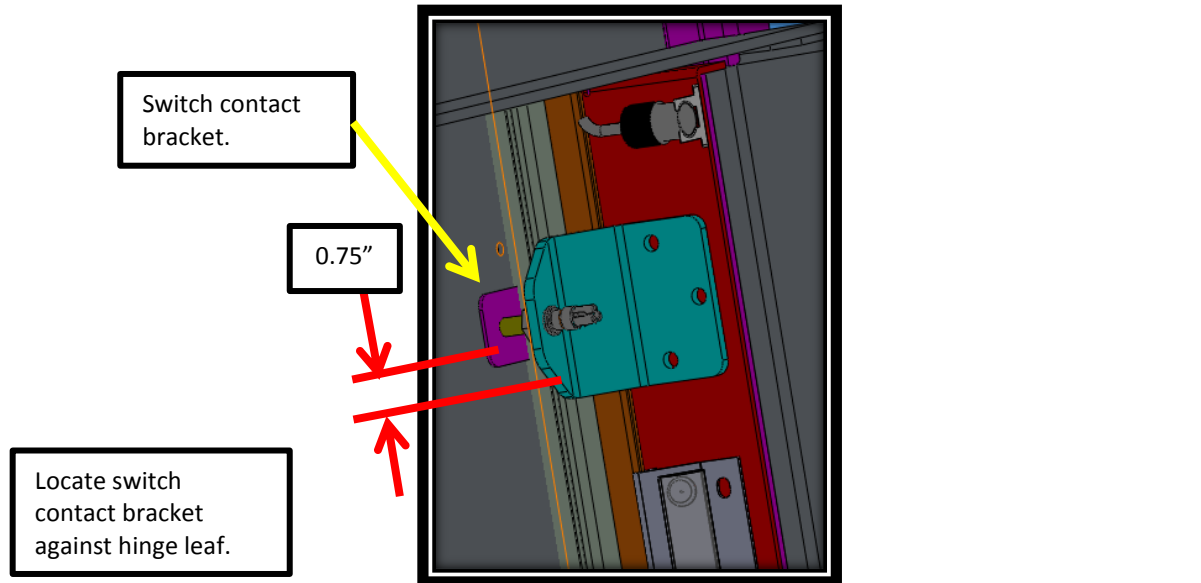

FIG. 6-1
4. Install the door switch contact bracket on the interior surface of the compartment door using urethane adhesive Sika Tack Ultrafast US or equivalent. Clean and prime the surfaces per the adhesive manufacturers recommendations. This bracket should be centered vertically with the switch bracket at 0.75" from the bottom of the switch bracket. Refer to FIG. 6-1, 6-2.